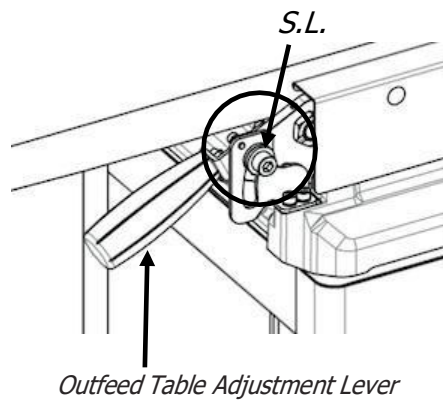

Figure 38: Screw Lock (S.L.)
STEP 3: Use a hex wrench (not included) to loosen Screw Lock (S.L.) to release outfeedtable adjustment lever as shown in **FIG. 38**.